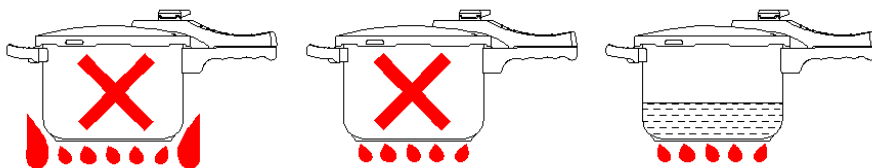

Fig.6
- In the case of a gas cooker, the flame should not extend beyond the outline of the base (Fig. 6).
- Never allow the liquid to evaporate completely ("dry cooking"), as this may lead to overheating (Fig. 6).